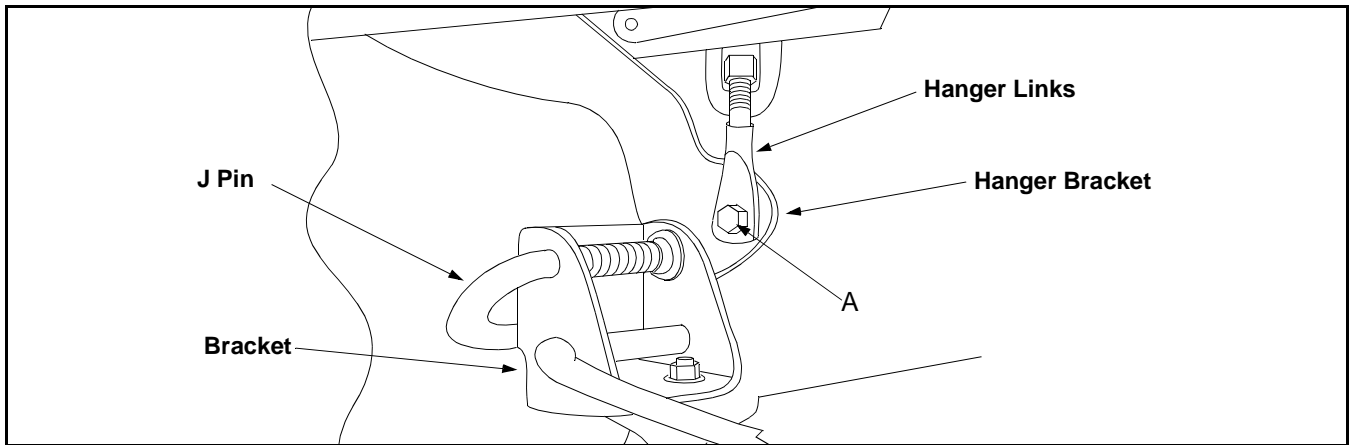

Figure 21
2. Pull J-Rod out to release hanger bracket and turn J-Rod until J-Rod is against outside of bracket. (Both sides) (See Figure 21)
1. Remove the nut and bolt (A) that holds the hanger link to the hanger bracket on the side that is low. (See Figure 21)
1. Remove the nut and bolt (A) that holds the hanger link to the hanger bracket on the side that is high. (See Figure 21)